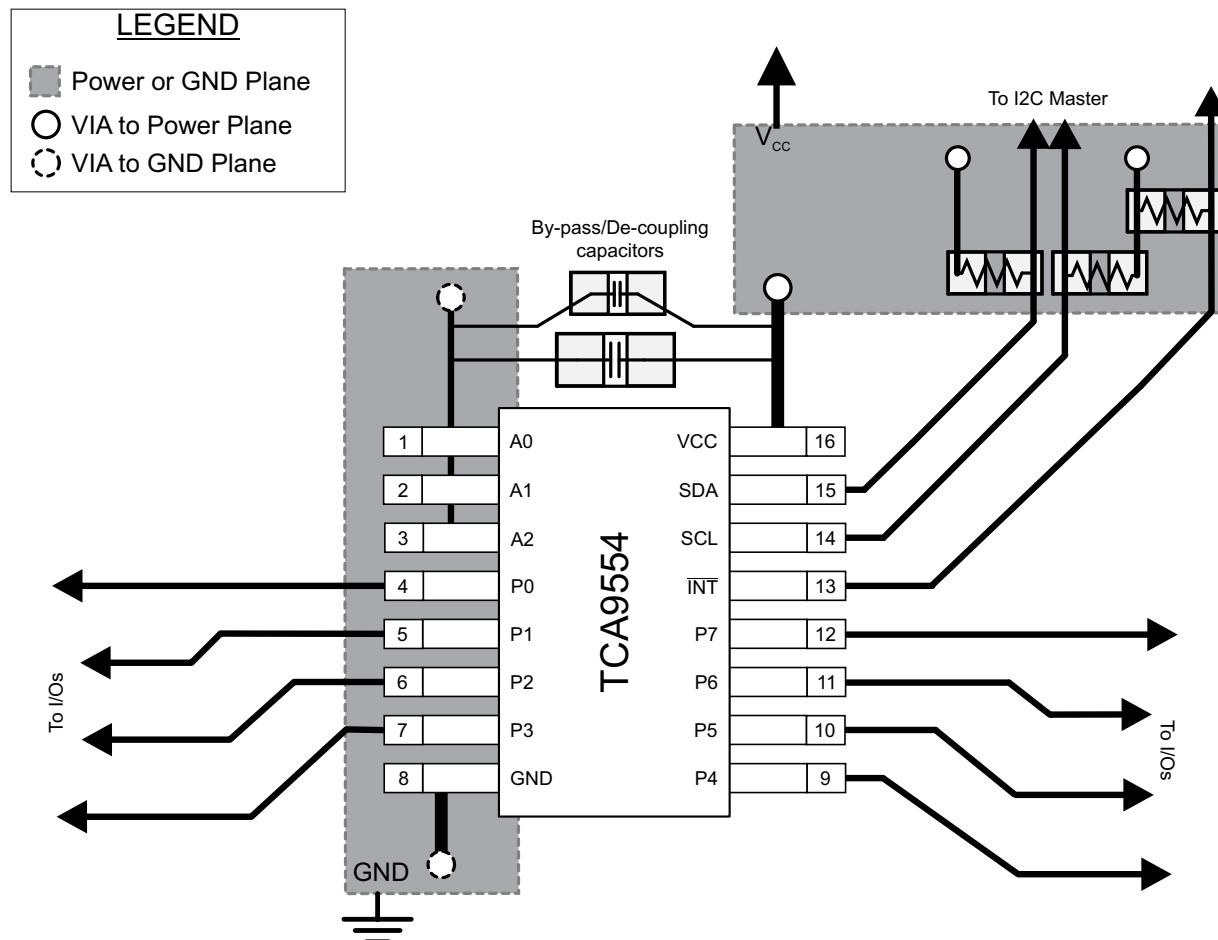

Figure 34. TCA9554 Layout
In all PCB layouts, it is a best practice to avoid right angles in signal traces, to fan out signal traces away from each other upon leaving the vicinity of an integrated circuit (IC), and to use thicker trace widths to carry higher amounts of current that commonly pass through power and ground traces. By-pass and de-coupling capacitors are commonly used to control the voltage on the V_{CC} pin, using a larger capacitor to provide additional power in the event of a short power supply glitch and a smaller capacitor to filter out high-frequency ripple. These capacitors must be placed as close to the TCA9554 as possible. These best practices are shown in Figure 34.
For the layout example provided in Figure 34, it is possible to fabricate a PCB with only 2 layers by using the top layer for signal routing and the bottom layer as a split plane for power (V_{CC}) and ground (GND). However, a 4 layer board is preferable for boards with higher density signal routing. On a 4 layer PCB, it is common to route signals on the top and bottom layer, dedicate one internal layer to a ground plane, and dedicate the other internal layer to a power plane. In a board layout using planes or split planes for power and ground, vias are placed directly next to the surface mount component pad which needs to attach to V_{CC} or GND and the via is connected electrically to the internal layer or the other side of the board. Vias are also used when a signal trace needs to be routed to the opposite side of the board, but this technique is not demonstrated in Figure 34.